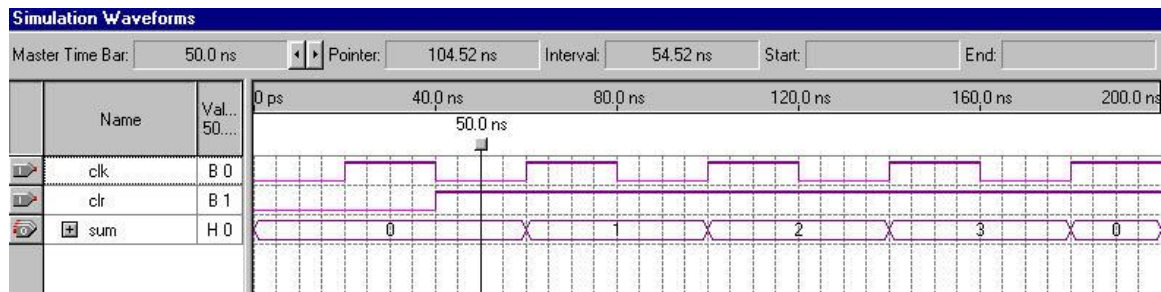

Figure 5-12.
6. Check to see if you get the same results shown in Figure 5-12.